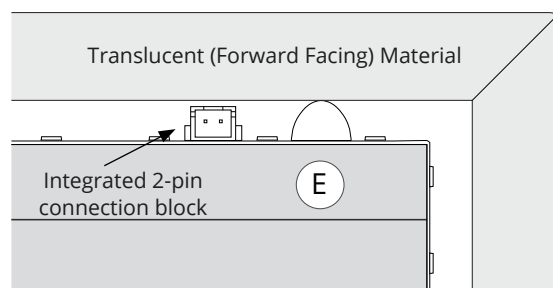

Figure 4
Domed spacing bumpers (E): The domed spacing bumpers (E) included with each Light Sheet have been engineered to bear the weight of translucent materials in horizontal applications and act as a safeguard in vertical applications so that the forward facing material does not harm the 2-pin connection blocks nor the LEDs. Evo-Lite recommends using eight bumpers per Light Sheet (approximately six per square foot), spacing them evenly to distribute the weight of the forward facing material (see Figure 4) and to add a level of protection in vertical applications when the forward facing material will be positioned near the Light Sheet (see Figure 5). When an application must bear more than 100 pounds per square foot (488 kg per square meter) of weight and/or bears live load, contact Evo-Lite for best practices.